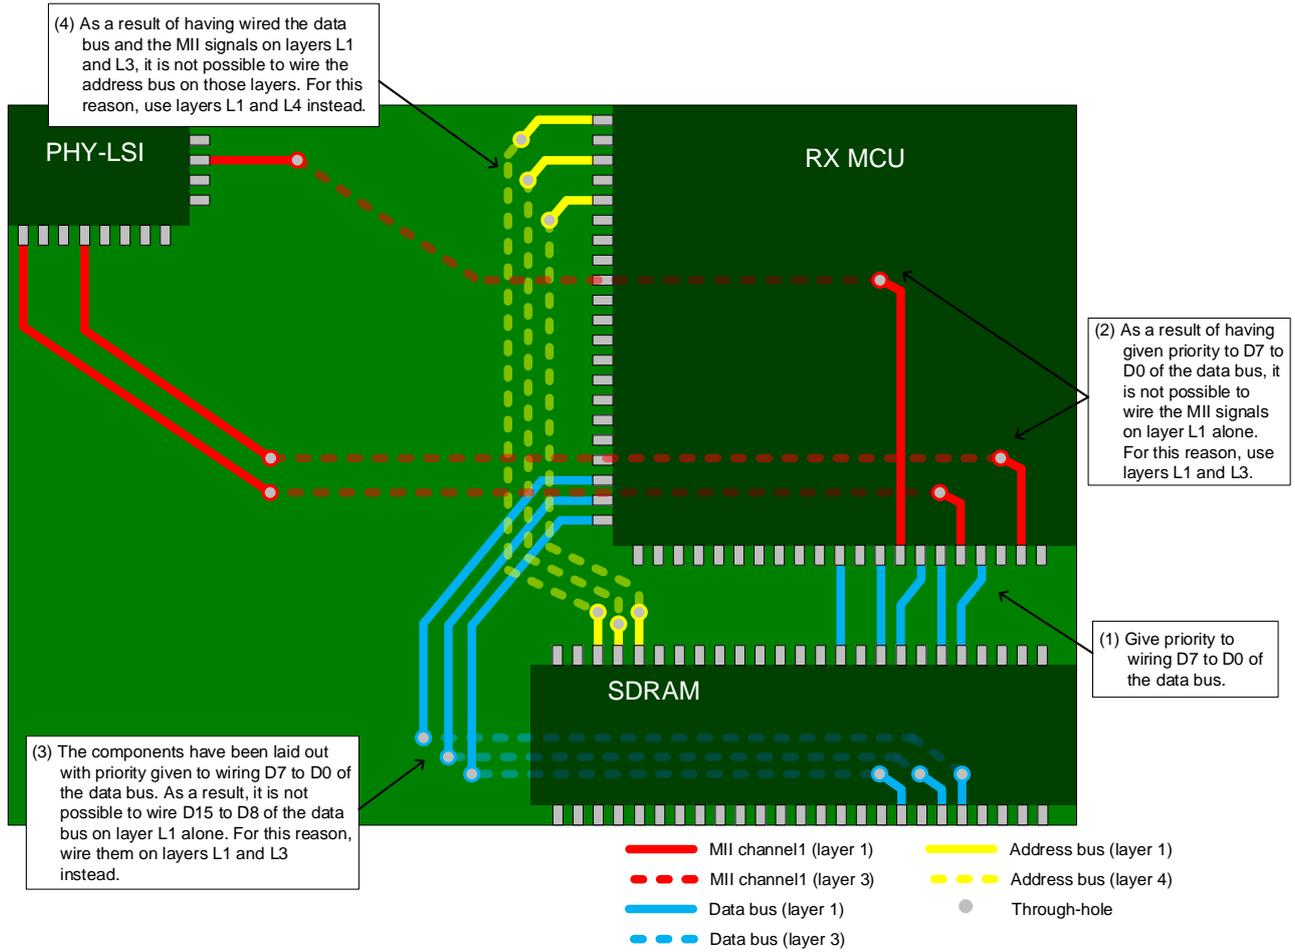

Figure 2 Pattern Layout Image (Transparency Diagram from Perspective of Layer L1)
1. Give priority to wiring D7 to D0 (particularly D5 and D6) of the data bus of the SDRAM on layer L1, and to making it as short as possible. (See (1) in Figure 2.)
3. As a result of having given priority to D7 to D0 of the data bus of the SDRAM, it will not be possible to wire the MII signals (particularly ET1\_RX\_CLK) on layer L1 alone. For this reason, wire it on layers L1 and L3 instead. Note that when layer L3 is used, the return current can readily return since the ground layer (layer L2) is immediately above. (See (2) in Figure 2.)
4. The components have been laid out with priority given to wiring D7 to D0 of the data bus of the SDRAM. As a result, it will not be possible to wire D15 to D8 of the data bus on layer L1 alone. For this reason, wire it on layers L1 and L3 instead. Note that when layer L3 is used, the return current can readily return since the ground layer (layer L2) is immediately above. (See (3) in Figure 2.)
5. As a result of having wired the SDRAM data bus and the MII signals on layers L1 and L3, it will not be possible to wire the SDRAM address bus on those layers. For this reason, wire it on layers L1 and L4 instead. (See (4) in Figure 2.)